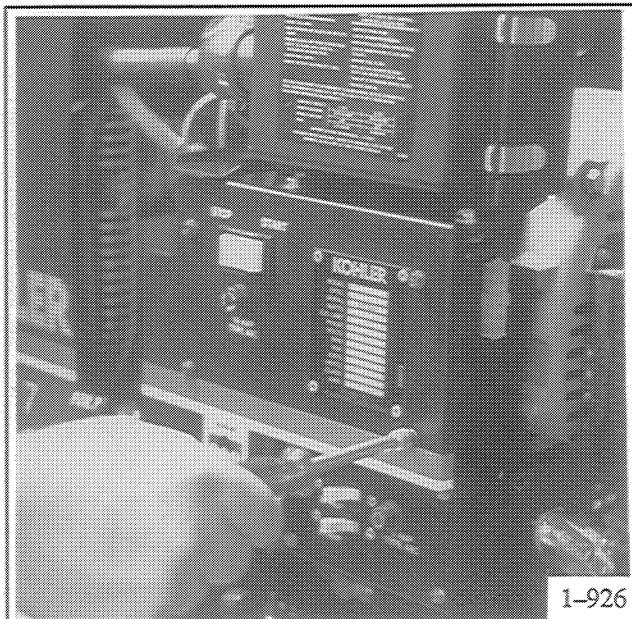

Figure 8–1. Removing Controller Cover
1. Remove four screws using a 1/4 in. nutdriver or socket wrench from start/stop control panel. See Figure 8–1.